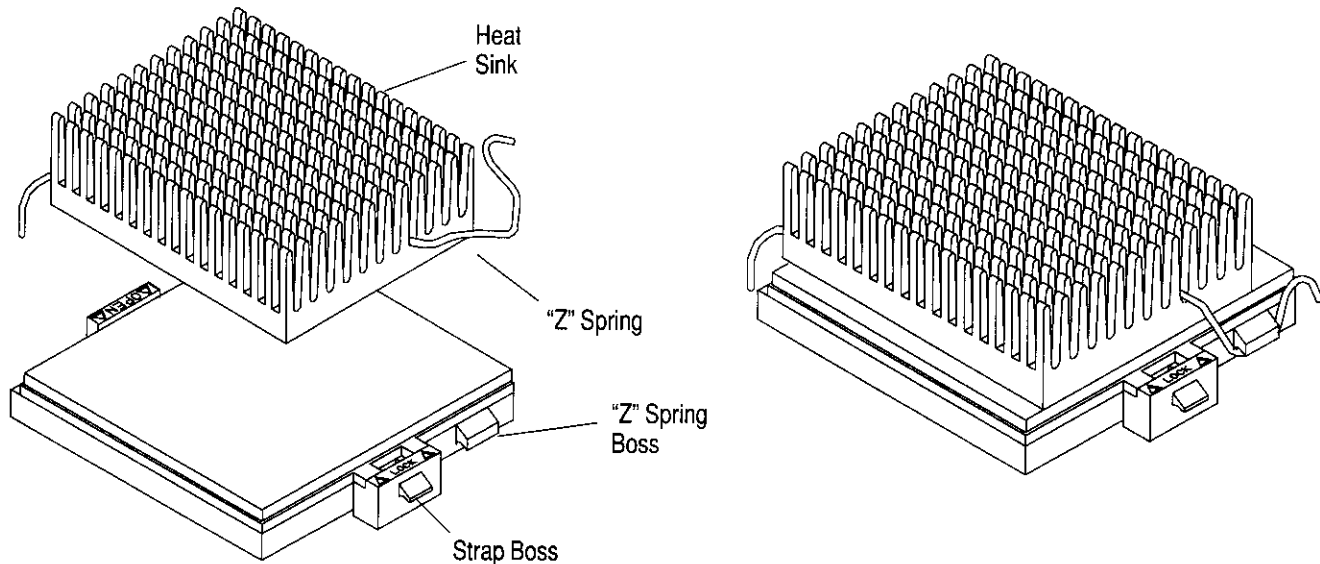

Figure 7
3.9. Heat Sink Installation (to attach a heat sink to socket) (see Figure 7)